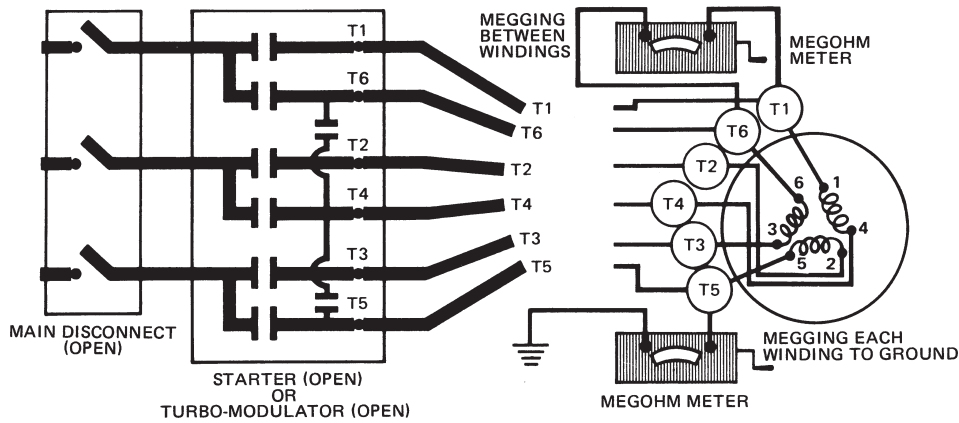
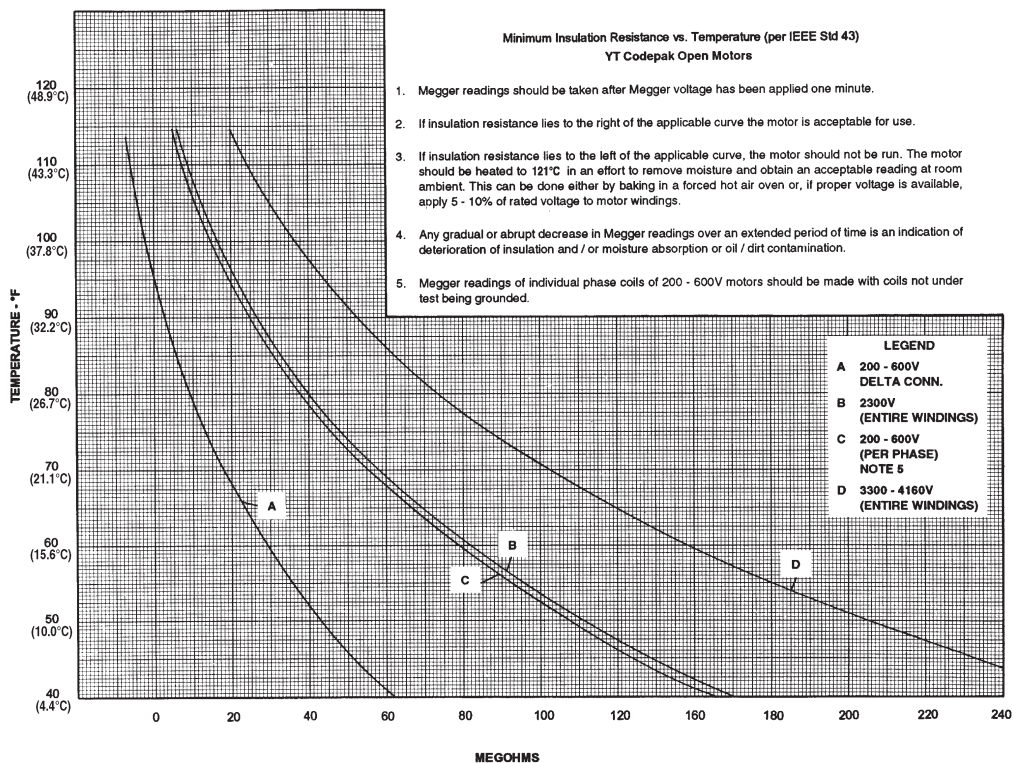

Figure 7.4 Insulation Testing of Motor Windings
Figure 7.5 Motor Stator Insulation Resistance
1. Test the insulation, using a megohm meter (megger), between phases and each phase and ground (see figure 7.4); these readings are to be interpreted using the graph shown in figure 7.5.